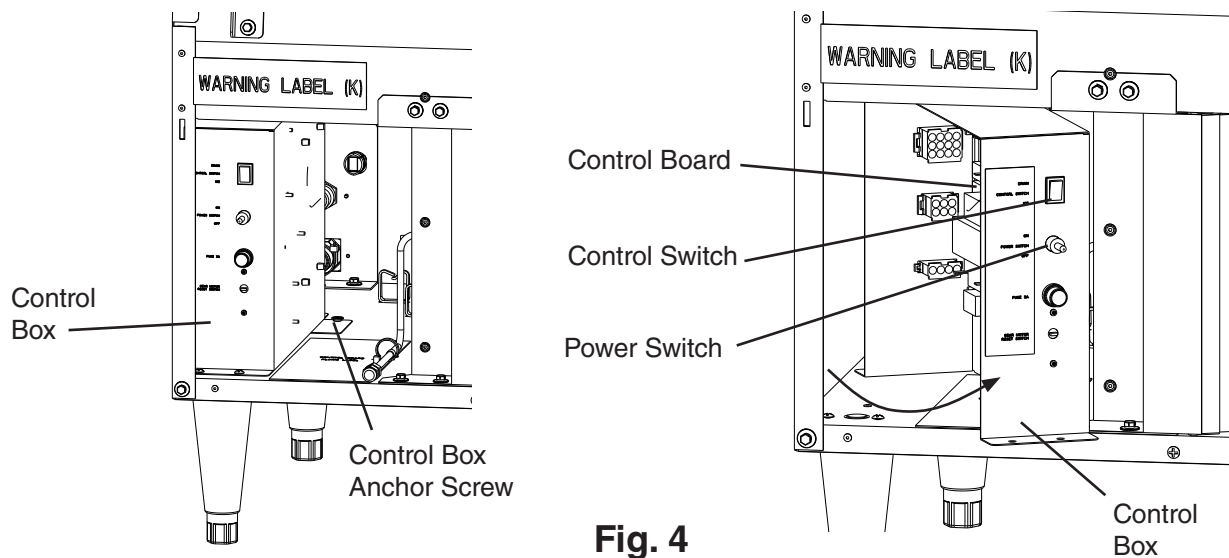

Fig. 4
- 7) Remove the control box anchor screw and swing the control box to the right for control board access. See Fig. 4.